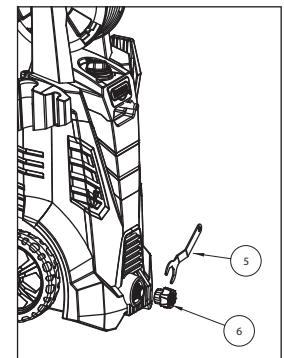

Figure 15 - Attach water inlet fitting onto unit (PW190200 only)
11. Attach water inlet fitting (6) onto unit by using wrench (5). See Figure 15. (PW190200 only).